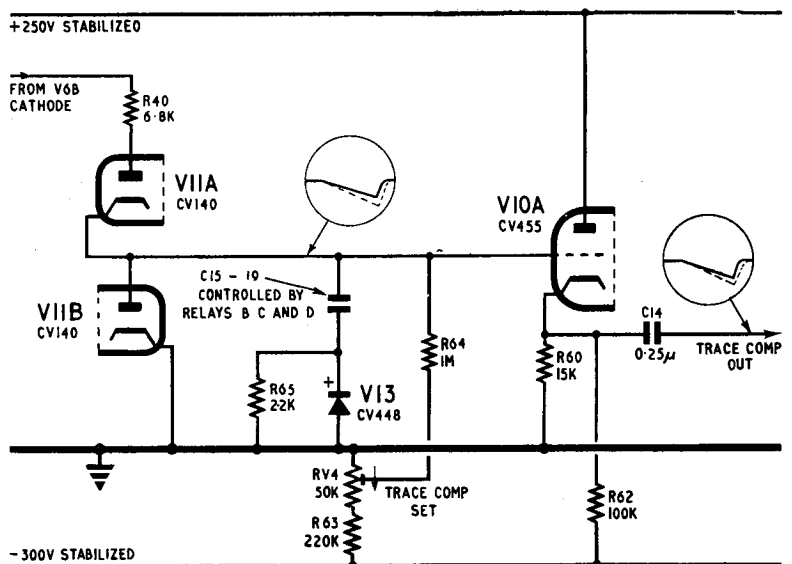

Fig. 9. Trace compensation generator
35. The trace compensation circuit (*fig. 9*) includes the triode V10A (part of a CV455), the germanium diode V13 (CV448), and the two diodes V11A and V11B (CV140) which are located in the cathode circuit of V6B. The purpose of the circuit is to produce from the R.B.U. rectangular wave a